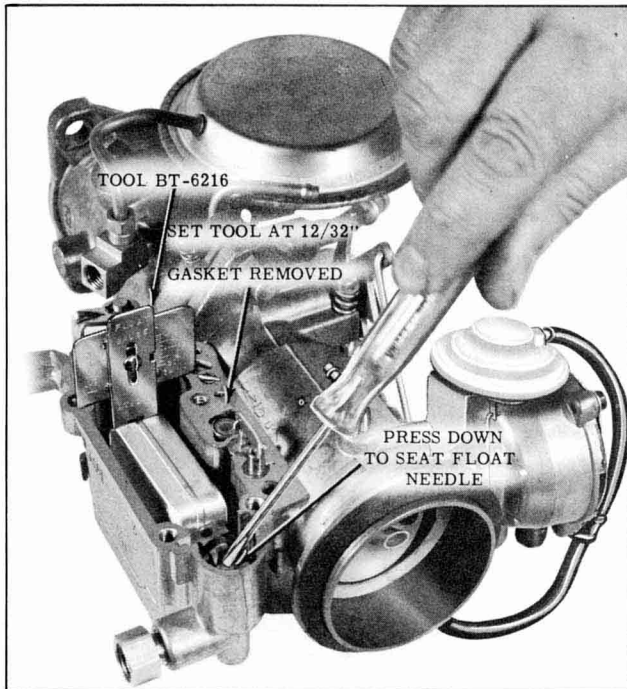

Fig. 9-129 Float Adjustment
10. Float Level Adjustment - Setting 12/32" (Fig. 9-129). To obtain this adjustment, place the notch in gauge BT-62-16 over the edge of the float bowl with the gasket removed as shown. The leg of the gauge should then extend down into the bowl. Measurement should be taken at the end of the bowl opposite the fuel inlet end. Press downward at the rear of the float arm, seating the float needle. With gauge in place, the top corner of the float should just touch the gauge. If adjustment is needed, bend the float pontoon up or down at the float arm. Check to make sure float is centered in bowl and will not rub on walls. If alignment is needed, bend float in horizontal direction at the arm. Float drop adjustment is not required.